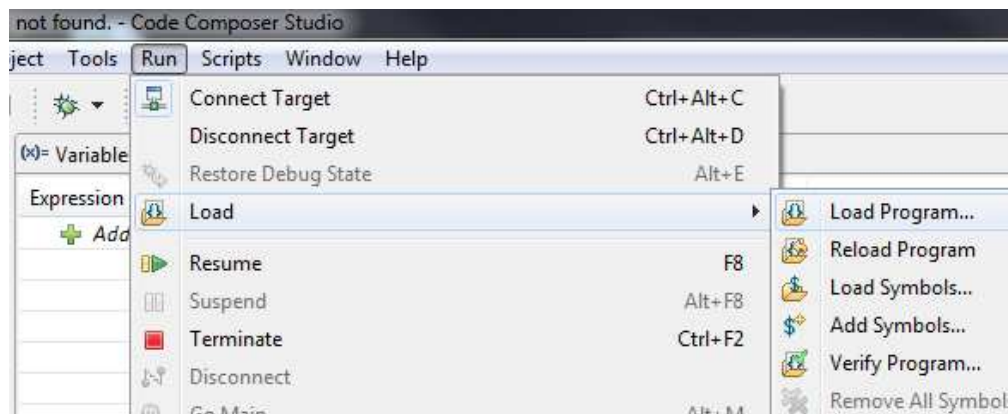

Figure 9. Load Program Selection
- After the device connects, go to **Run** → **Load** → **Load Program** (Figure 9). Browse to the **BOOST-DRV8711 Hardware and Software Files** folder that was downloaded from the tool folder. Go into the Application subdirectory and then go into the GUI subdirectory. Select the **appProgram.out** file (Application\BOOST-DRV8711_GUIvX.X\appProgram.out).